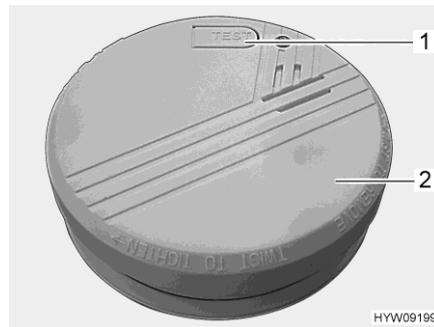

Fig. 98 Smoke alarm
- Press the test button (Fig. 98,1) on the smoke alarm (Fig. 98,2) until the alarm tone sounds. The alarm tone falls silent after the test button is released.